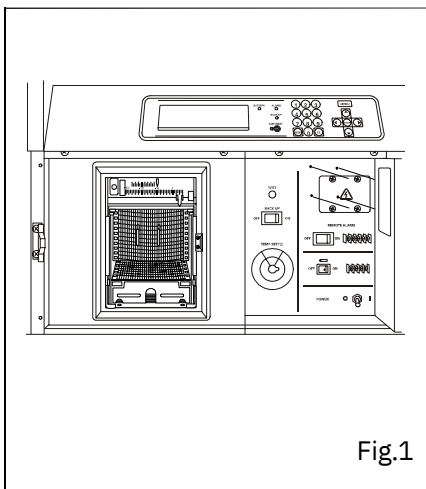

Fig.1
1. Open the door and let down the lever of the penholder; the pen point is apart from the recording paper. (Fig. 1)
3. Set a new recording paper in place on the rear bottom of the cartridge. Set the hole on the recording paper in the cog of the recording paper driving assembly and feed the recording paper in Fig. 1 the direction of the arrow by driving the cog wheel.
1. Remove 4 screws of the communication box hole cover in the control panel. (Fig. 1)